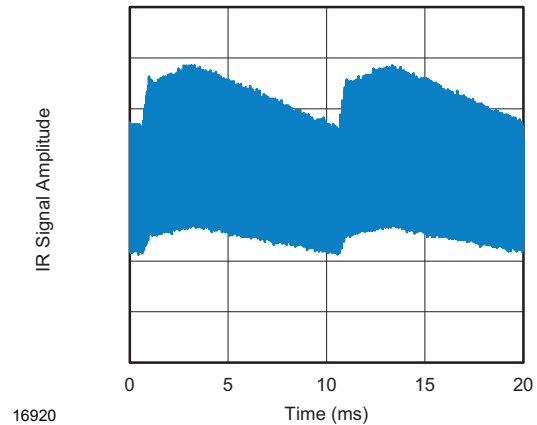
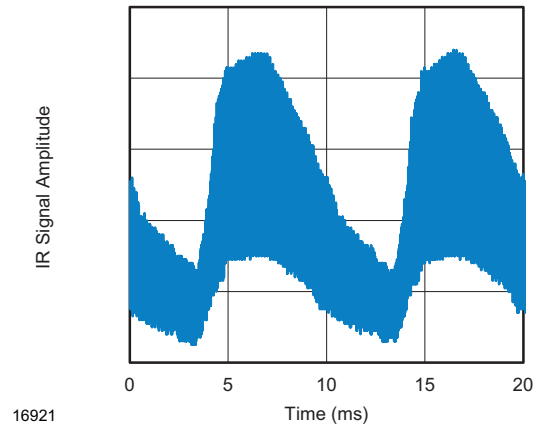

Fig. 13 - IR Disturbance from Fluorescent Lamp With Low Modulation
Fig. 14 - IR Disturbance from Fluorescent Lamp With High Modulation
- Modulated IR pattern from common fluorescent lamps (example of noise pattern is shown in Fig. 13 or Fig. 14)
| Suppression of interference from fluorescent lamps                         | Mild and complex disturbance patterns are suppressed (example: signal pattern of Fig. 13 and Fig. 14) | Critical disturbance patterns are suppressed, e.g. highly dimmed LCDs |